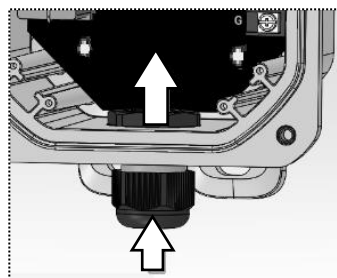

Figure 1B. Feed Cable/Wires.
2. Feed the cable/wires through the cable gland. A 16AWG-5 conductor jacketed cable, 0.26" - 0.54" diameter, is recommended to maintain the IP rating of the enclosure. See Figure 1B.